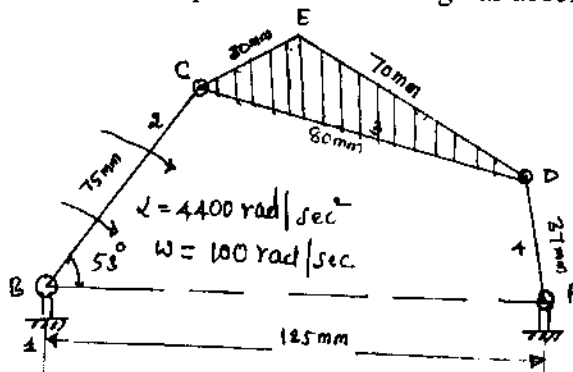

Fig. Q3
- 3 A four bar mechanism shown in Fig. Q3 crank BC rotates with an angular velocity of 100 rad/sec and an angular acceleration of 4400 rad/sec² at the instant when the crank makes an angle 53° to the horizontal. Draw the acceleration polygon and determine the linear acceleration of points E and the angular acceleration of link 3. (20 Marks)